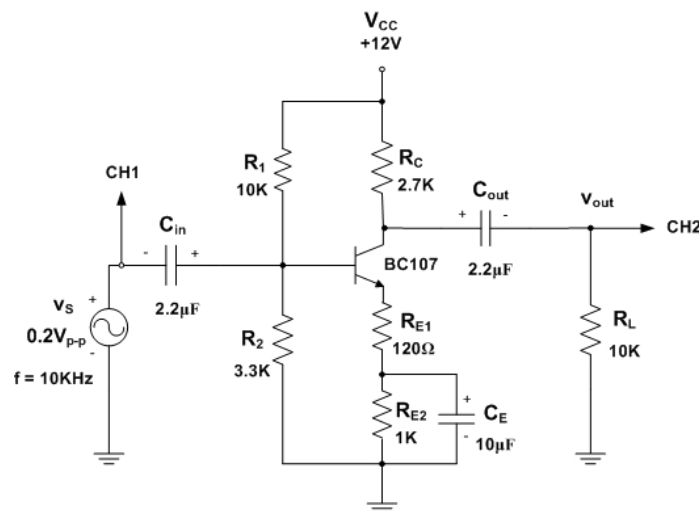

Figure 6: The Practical Common Emitter Amplifier Circuit
2. Connect the amplifier circuit shown in Fig.6, and apply a sinusoidal source signal with peak amplitude of 0.1V and frequency of 10 KHz. Display both the input (source) and output (load) signals on the oscilloscope. Try to measure the voltage gain A_v , where $A_v = V_{out}/V_s$.